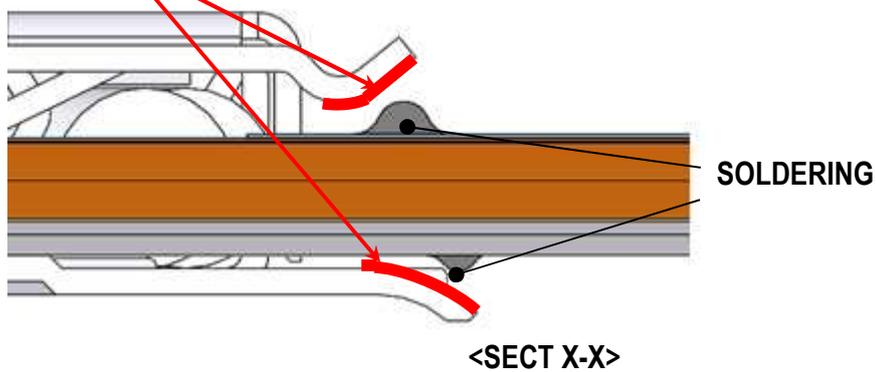

Fig.11 Soldering amount of SHELL and FPC
- ② Solder the FPC and SHELL by an appropriate amount. (Fig. 11).